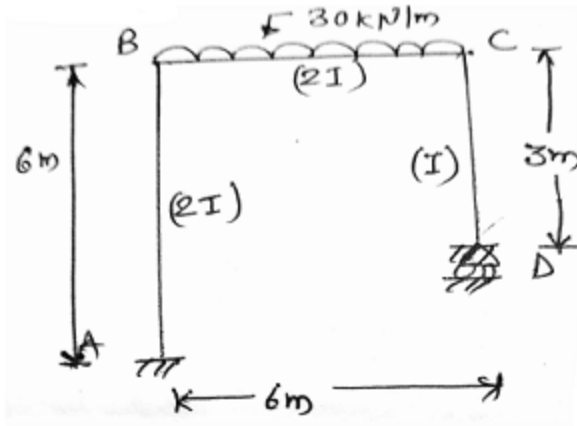

Fig. 6
Q.9 Analyze the frame shown in fig. 6 by moment distribution method & Draw BMD. 15
Q.9 Analyze the portal frame shown in fig. 6 by using moment distribution method and draw BMD. 15